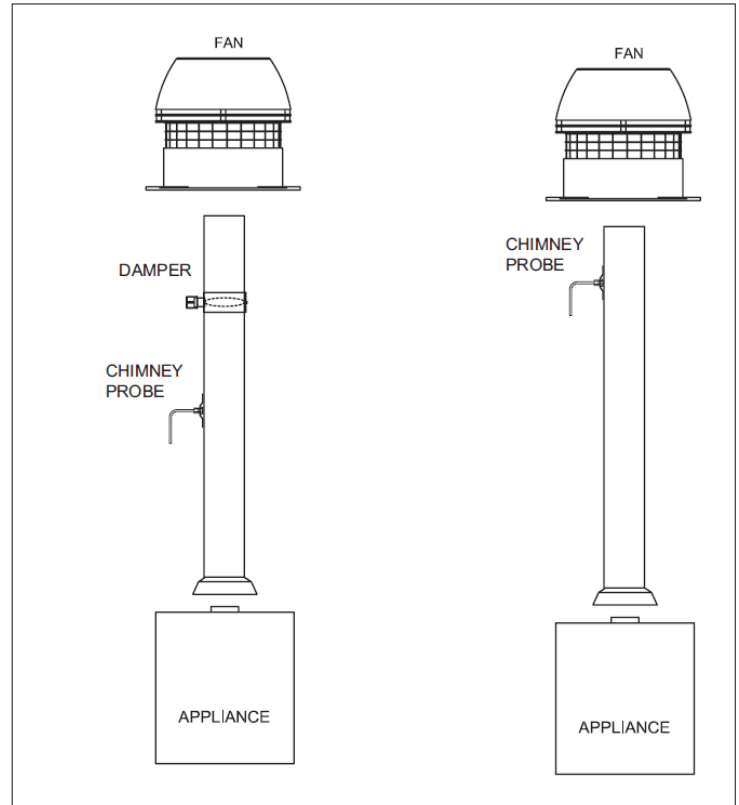

FIGURE 46
6. For fireplace installations, the probe should be installed close to the fan inlet. **Figure 46.**